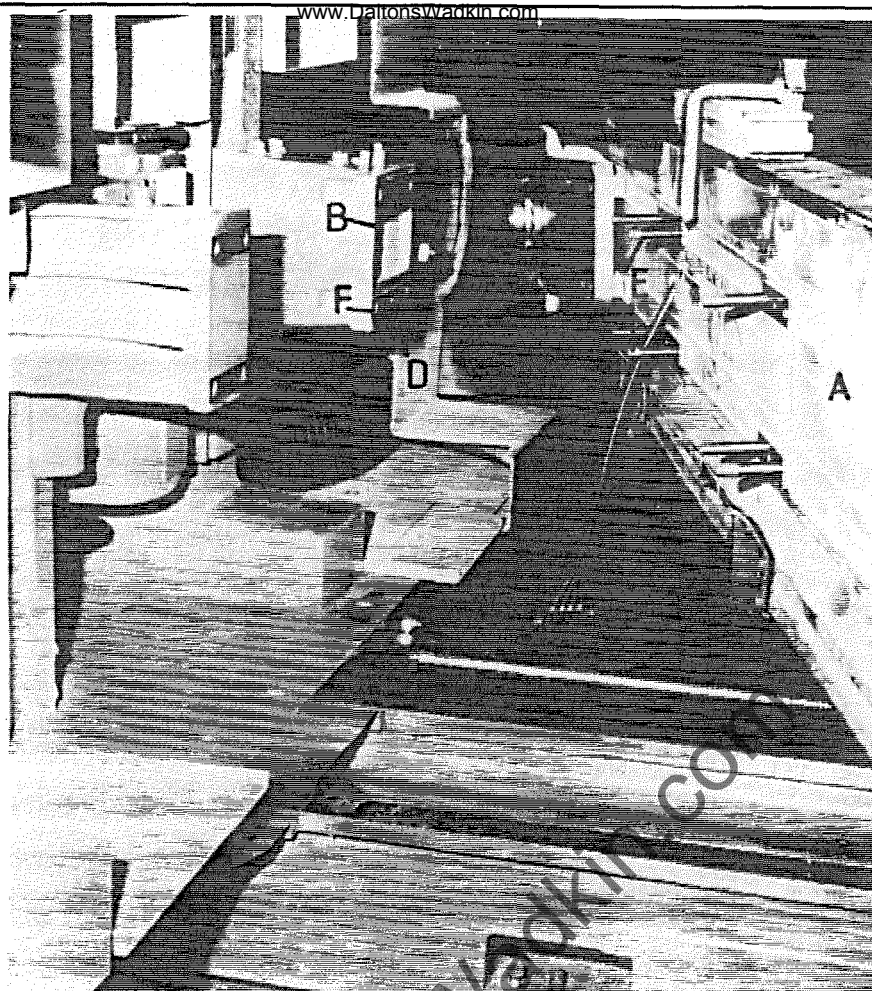

FIG. 11
- 1 Place sling around chain beam "A" FIG.11, then lift into a position near to mounting bracket "B".